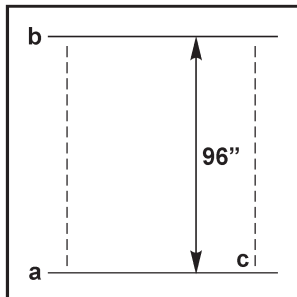

Figure 30
2. Measure and mark 8 feet up from “c”. Snap a chalk line from “a” to “b” extending across the entire lane (see Figure 30).